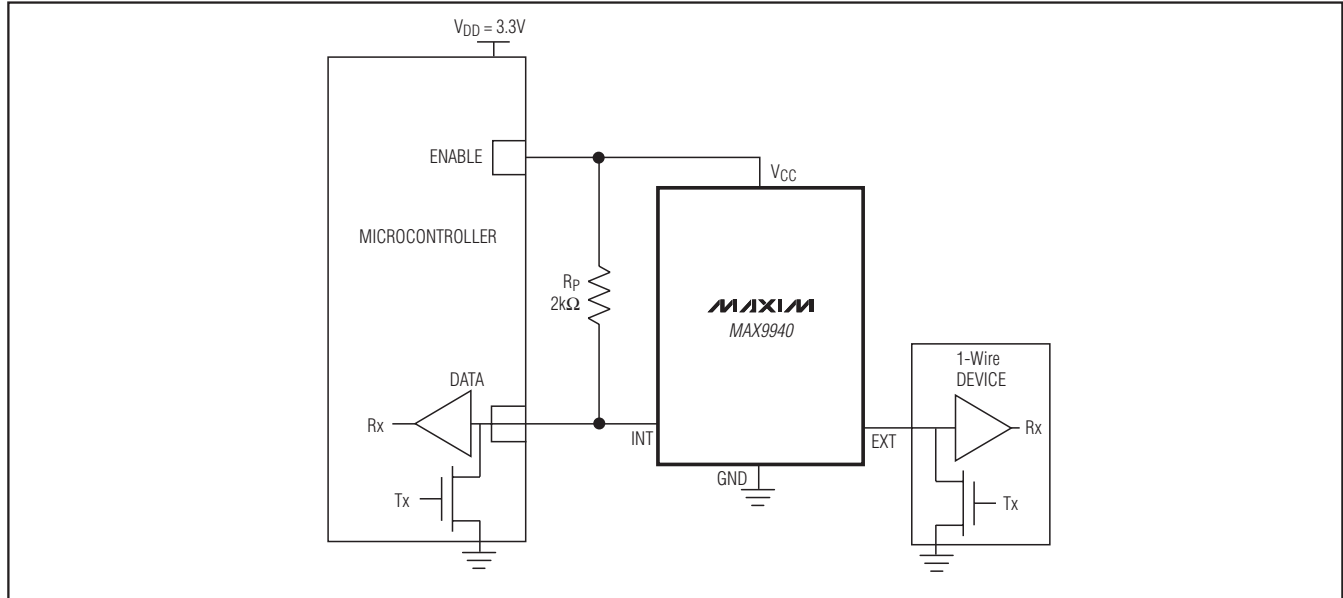

Figure 1. Recommended Scheme for Battery-Operated Devices that Need to Shut Down the MAX9940 and Prevent Power Draw During Short to GND Faults
Figures 1 and 2 show two methods of powering the MAX9940 from an ENABLE digital output port of the microcontroller. Figure 3 shows the conventional method of operating the MAX9940 with both pullup resistor for digital communication on DATA (RP) and VCC being connected directly to VDD of the microcontroller.
Figure 1 shows a recommended configuration for battery-operated devices that need to conserve power both on a continuous basis as well as during short to GND fault conditions. In this scheme, the ENABLE port of a microcontroller supplies the quiescent current for the MAX9940 as well as that required for digital communication (i.e.,  $R_p$  pullup resistor). By forcing a 0 on the ENABLE digital output port of the microcontroller, the MAX9940 is in a zero-power shutdown mode, while also preventing any power drain to occur in the event of a short to GND fault on EXT. As stated earlier, EXT maintains the ability to withstand DC voltages up to 28V even when  $V_{CC} = 0$ .